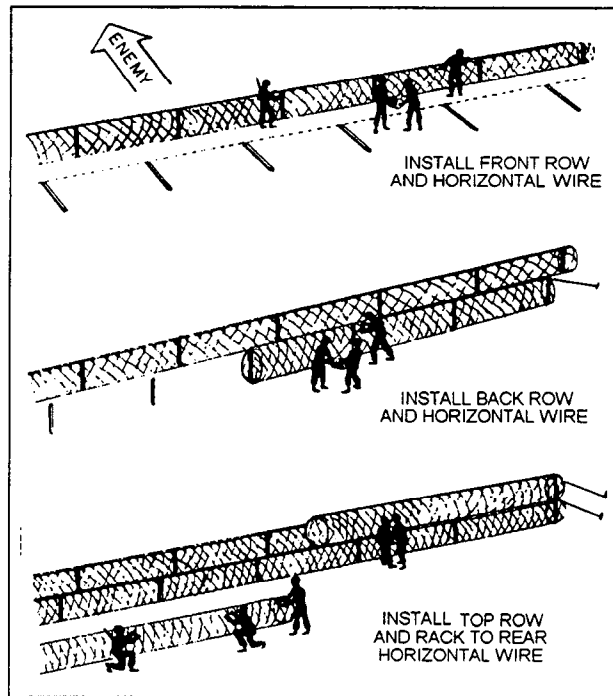

Figure 8-27.—Installing concertina.
As they complete the first operation, organize all men in four-man parties (fig. 8-27) to open and install concertinas, beginning at the head of the fence. The sequence shown in general in figure 8-27 is as follows:
6. Install the concertina in the top row (fig. 8-27), fastening the end hoops of 50-foot sections with plain, steel-wire ties. Begin this row at sections with plain, steel-wire ties. Begin this row at a point between the ends of the front and rear of the lower rows, thus breaking all end joints.